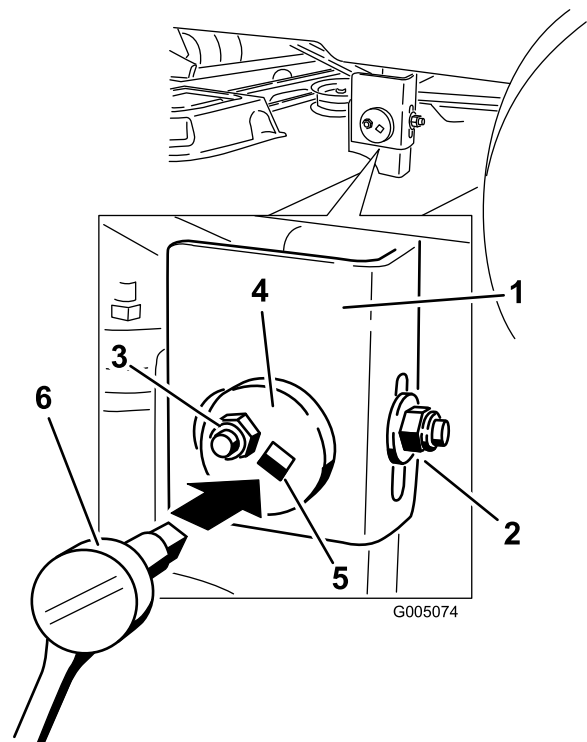

Figure 49
6. Move to the left side of the machine. Loosen, but do not remove, the rear locking nut on the hanger bracket (Figure 49).
7. Loosen the side locking nut on the hanger bracket just enough to allow the eccentric plate to be adjusted (Figure 49). Use a 3/8 inch drive extension on a socket wrench to manipulate the eccentric plate. Use the wrench to reposition the height of the mower deck and adjust to the desired height.
8. Stop the deck at the adjusted position and tighten the side locking nut on the hanger bracket to hold the new position (Figure 49). Tighten the rear locking nut on the hanger bracket.